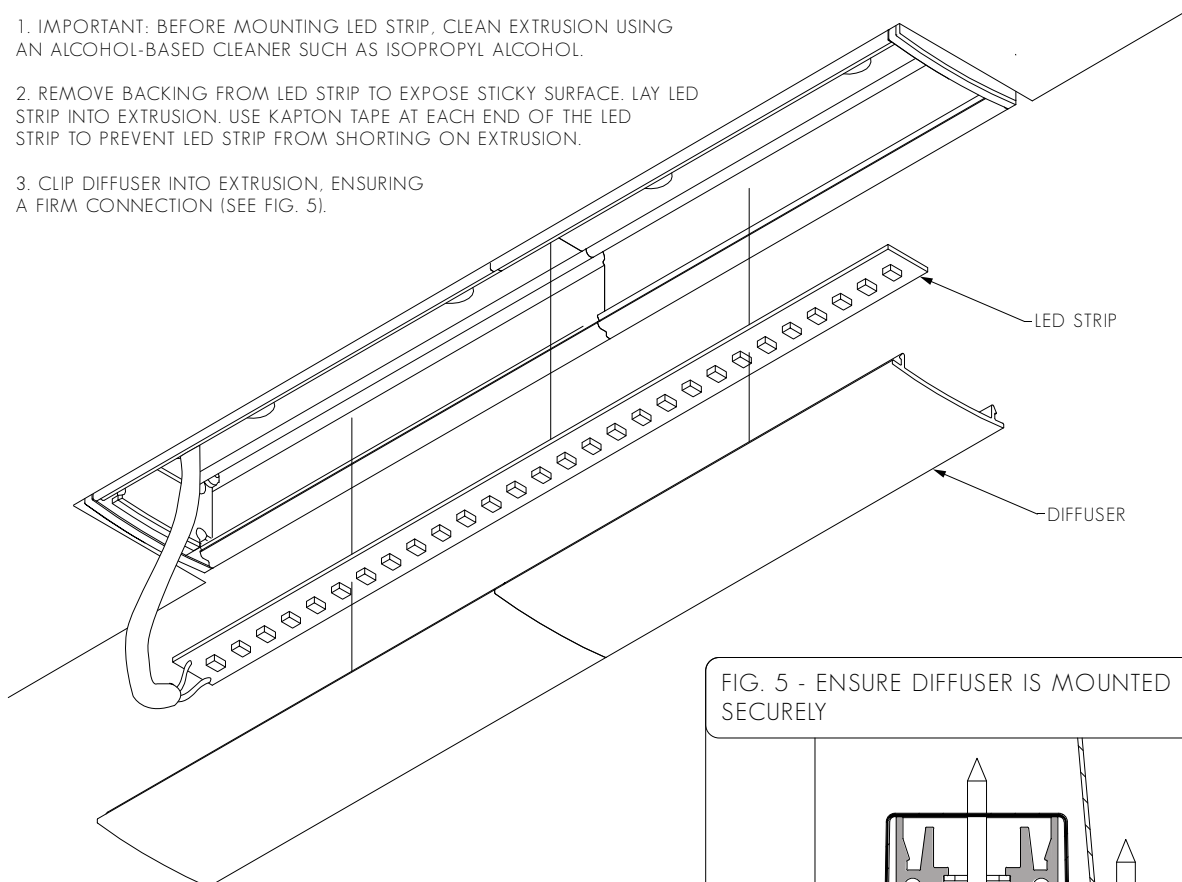

FIG. 5 - ENSURE DIFFUSER IS MOUNTED SECURELY
3. CLIP DIFFUSER INTO EXTRUSION, ENSURING A FIRM CONNECTION (SEE FIG. 5).